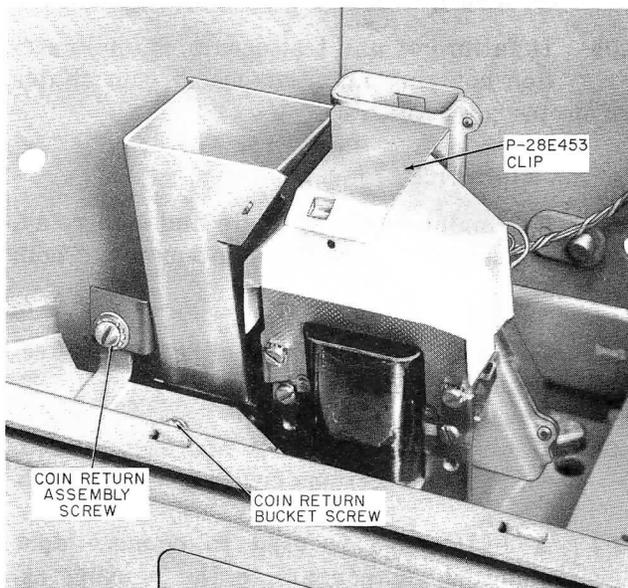

Fig. 7 — Location of Screws
- (1) Loosen coin return assembly screw (Fig. 7).
- (2) Lift assembly off.
- (3) Replace assembly by reversing the removal procedure.
- (1) Remove coin return bucket screw (Fig. 7).
- (2) Pull bucket up and out.
- (3) Replace bucket by reversing the removal procedure.